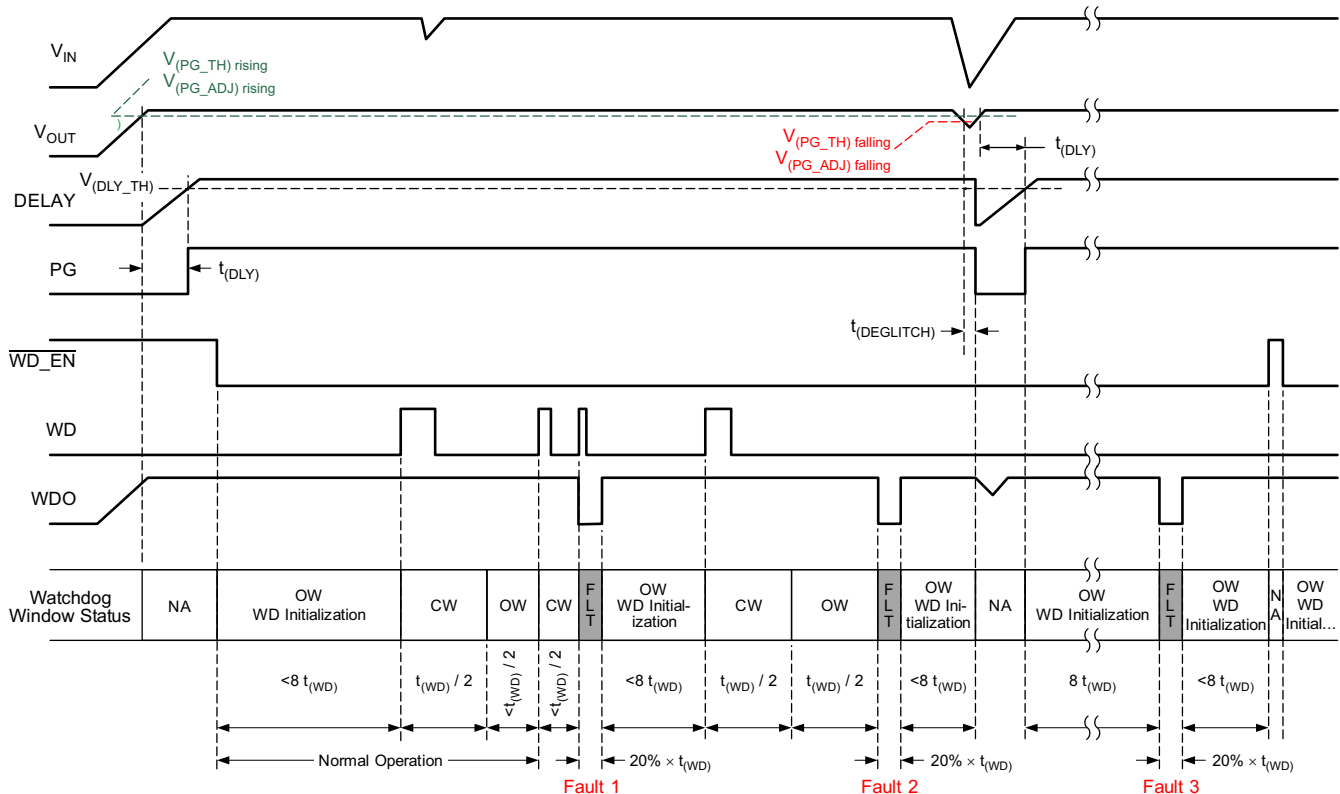

图 6-4. Window Watchdog Operation
The window watchdog is able to monitor whether the frequency of the watchdog service signal (WD) is within certain ranges. A watchdog low-voltage fault is reported when the frequency of the watchdog service signal is out of the setting range. 图 6-4 shows the window watchdog initialization and operation for the TPS7B63-Q1 (WRS is low). After the output voltage is in regulation and PG is high, the window watchdog becomes enabled when an external signal pulls $\overline{\text{WD_EN}}$ (the watchdog enable pin) low. This causes the watchdog to initialize and wait for a service signal during the first initialization window for 8 times the duration of t_{WD} . A service signal applied to the WD pin during the initialization open window resets the watchdog counter and a closed window starts. To prevent a fault condition from occurring, watchdog service must not occur during the closed window. Watchdog service must occur during the following open window to prevent a fault condition from occurring. The fault output (WDO), externally pulled up to V_{OUT} (typical), stays high as long as the watchdog receives a proper service signal and there is no other fault condition.
Three different fault conditions occur in 图 6-4: